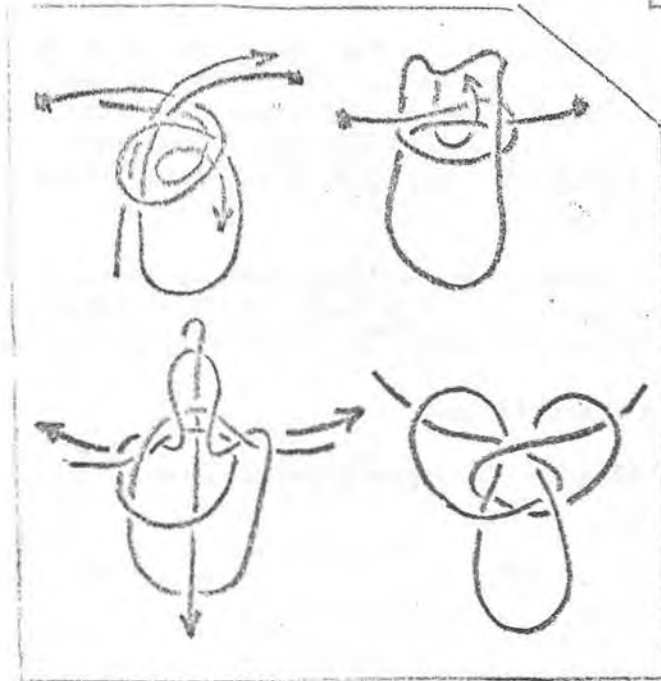
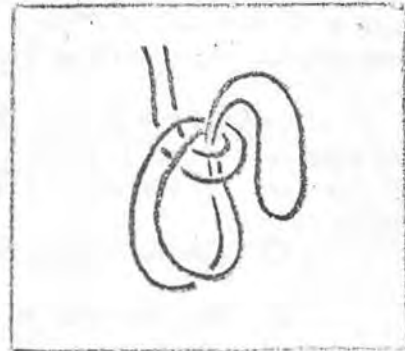

FIG 29. BUTTERFLY KNOT
FIG 30. BOWLINE ON A BIGHT
c. Middle Rope Knots: Middle rope knots form a fixed loop or loops in the middle of the rope without using the ends. The Butterfly Knot (Figure 29) is used as the middle man in a roped party and for tightening installation ropes.
(1) The Butterfly will form a single loop.
(2) The bowline on a bight (Figure 30) forms a double loop.